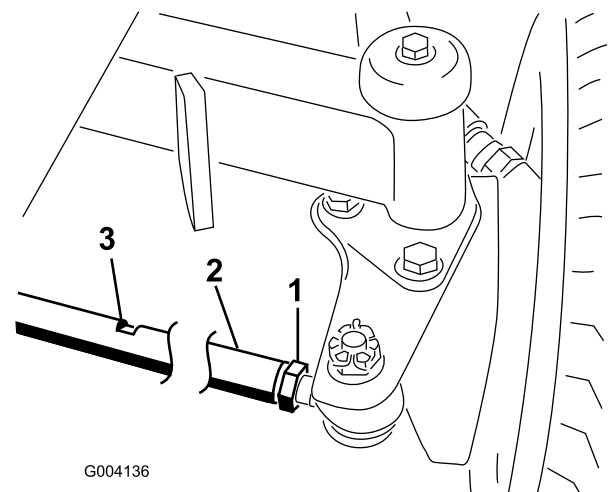

Figure 98
1. Loosen the jam nut on each end of the tie rod (Figure 98).